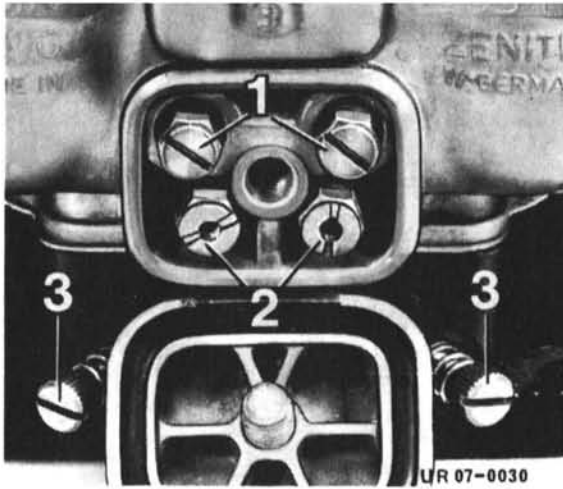

Figure 50 Nozzle housing
4 Unscrew and check idle mixture control screws (3) figure 50. Both must not show either annular grooves or other signs of wear.